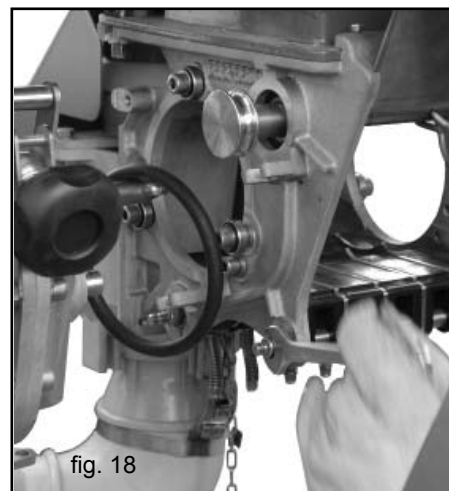

fig. 18
- 1) In order to disassemble the feeler unit, loosen the four nuts of the axles (front and back) (Fig. 18), using a 13 mm spanner.